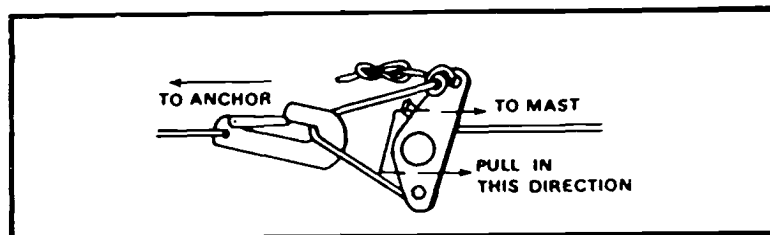
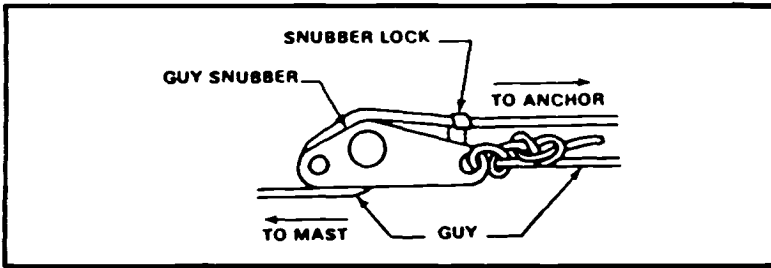

Figure 3-7. Pulling guy rope taut.
Figure 3-8. Securing guy with snubber lock.
- Pull the upper and lower guys on each side tight (Figure 3-7) and secure them (Figure 3-8). Make sure the mast assembly is not pulled out of line.